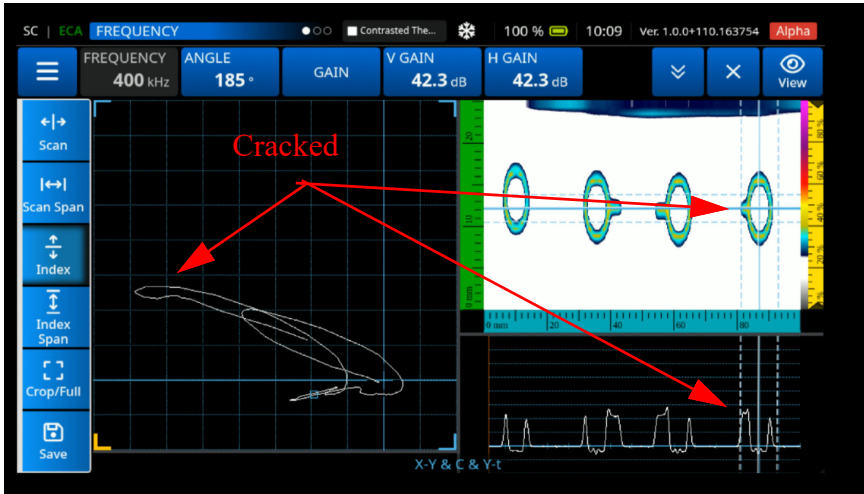

Figure 4-89 Select Cracked Fastener
- Using the **Scan** and **Index** cursors, select the cracked fastener signal (See Figure 4-89 on page 184).